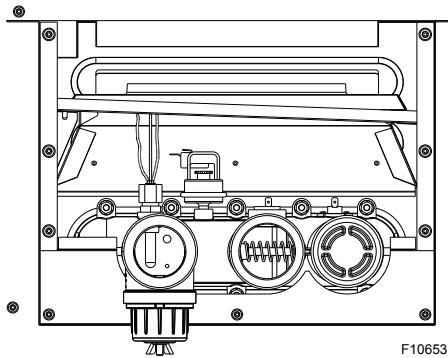

Figure 34. Component Wiring Locations - In/out Header
2. Disconnect wires at high limit, AGS (automatic gas shutoff), water pressure switch on the in/out header and ProTek Shield bonding wire. See **Figure 34**.